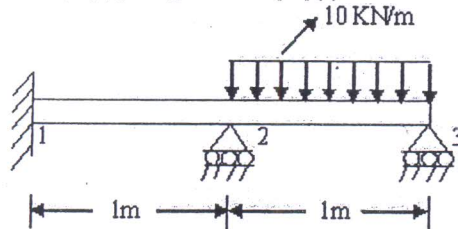

Figure.2
b) For a beam and loading shown in Figure.2, determine the slopes at 2 and 3 and the vertical deflection at the midpoint of the distributed load. [15]